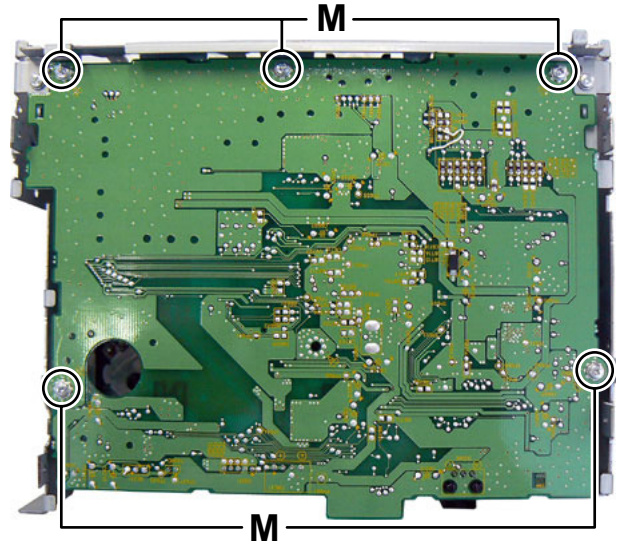

Fig.15
### 3.1.6 Removing the Sub board (See Fig.15, 16)
- (1) Remove the five screws **M** attaching the Sub board. (See Fig.15)